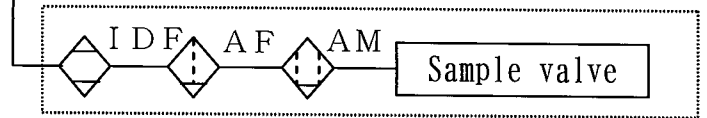

Fig. 1
- Lubrication : Non-lubricated [Fig.1]